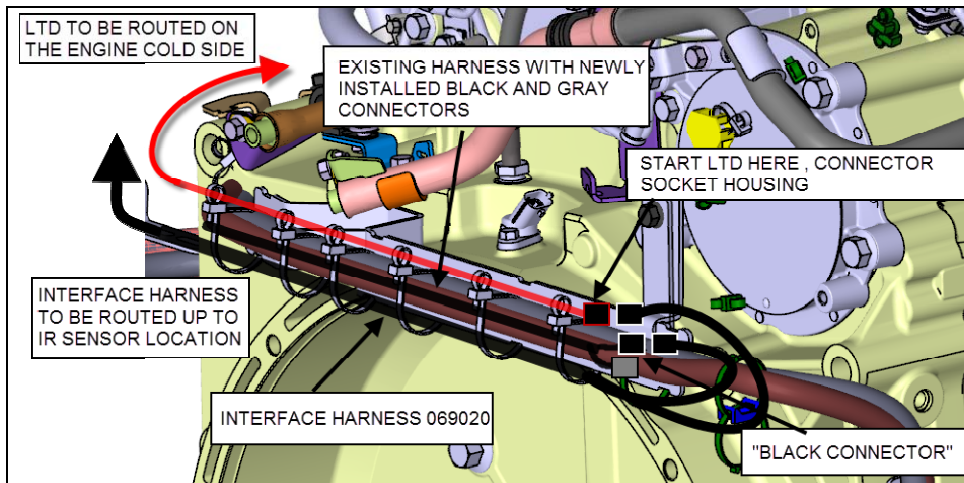
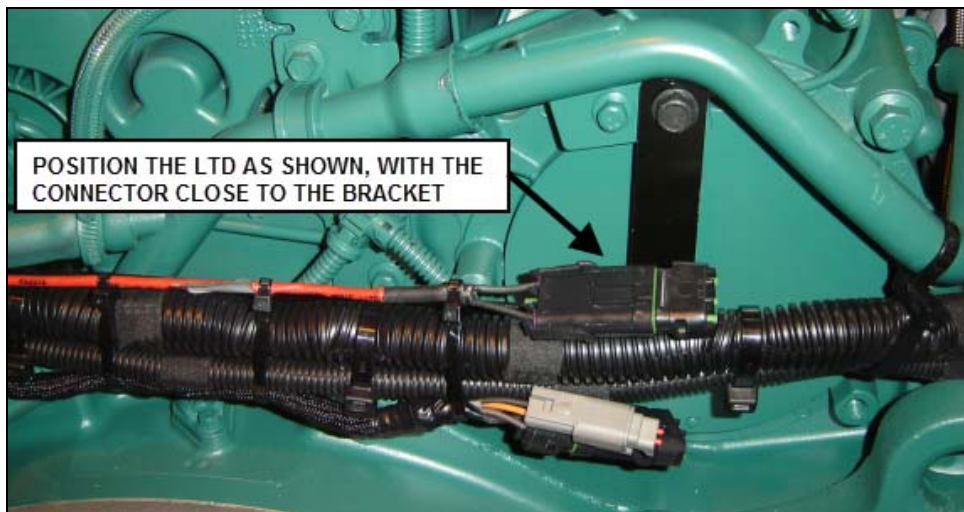

Figure 26
Figure 27
- 1) Secure LTD to existing harness (see Figure 26 for proper installation) using 6 double loop head nylon cable ties 507664. Use the second loop to attach the LTD (Figure 26 and Figure 27). Tighten the loop fixing the LTD by hand only. Follow the general recommendations.